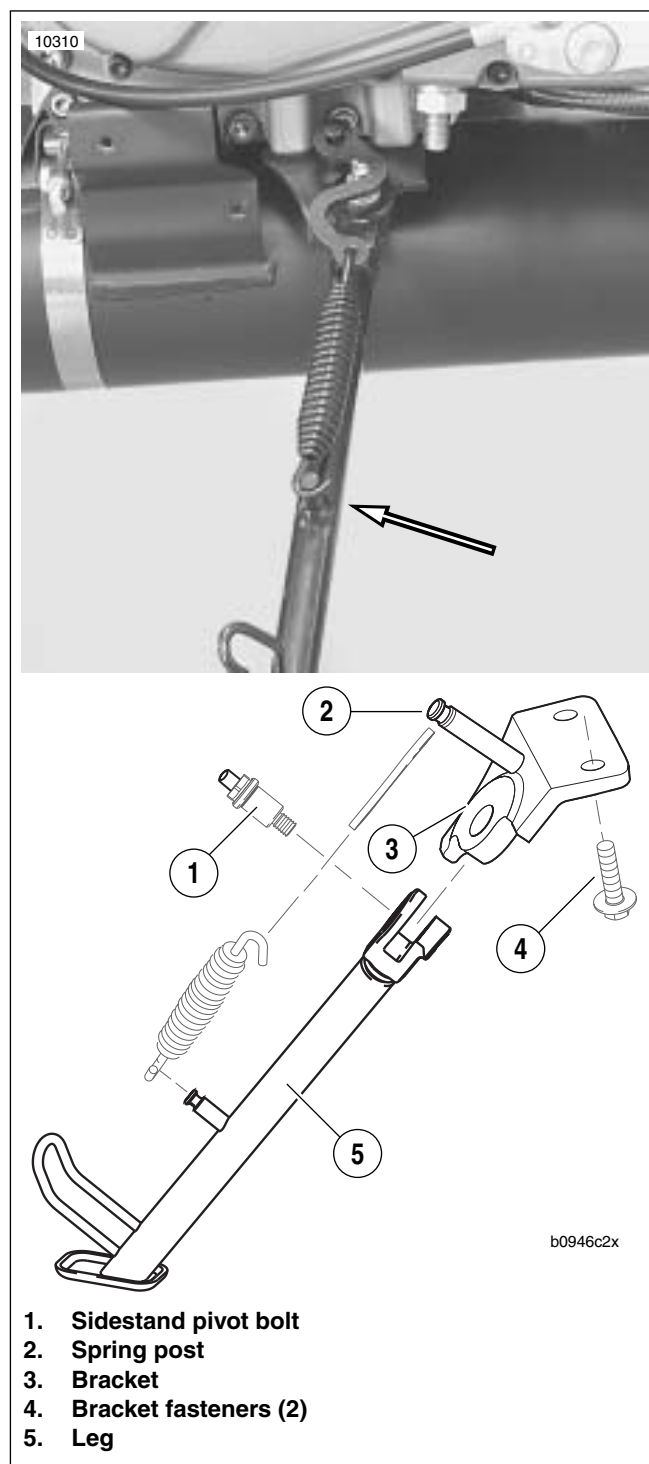

Figure 2-130. Sidestand Assembly (Extended)
2. See Figure 2-130. Remove fasteners (4) securing sidestand bracket (3) to frame.